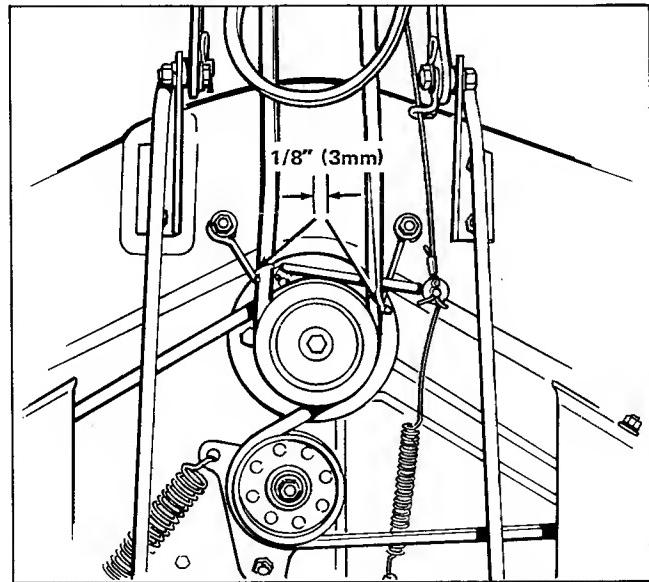

Figure 30. Arbor Belt Stop Position
6. Check the positioning of the two front belt stops. Both belt stops should be $1/8$ inch (3 mm) from the drive belt (figure 30).